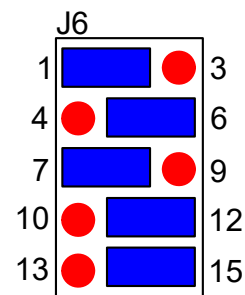

Figure 3. Default J6 Setup for 16-Pin Modem Chips
1. Set jumpers according to Figure 1, but change J6 to the arrangement shown in Figure 3 if an FS ISOModem package is used.
1. Set jumpers according to Figure 3, but change J6 to the arrangement shown in Figure 3 if an FS ISOModem package is used.